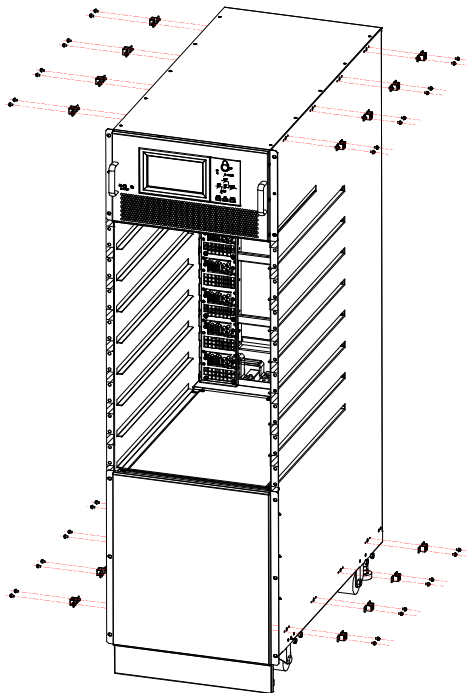

Figure 3-8 Remove bracket for cabinet side door
3. Remove bracket for cabinet side door, as Figure 3-8 shows :